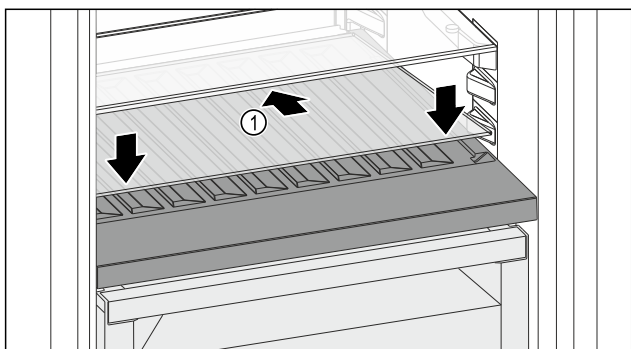

Fig. 182
- Place the glass shelf Fig. 182 (1) at an angle, sloping it downwards and backwards.
- Lower the glass shelf Fig. 182 (1) at the front.